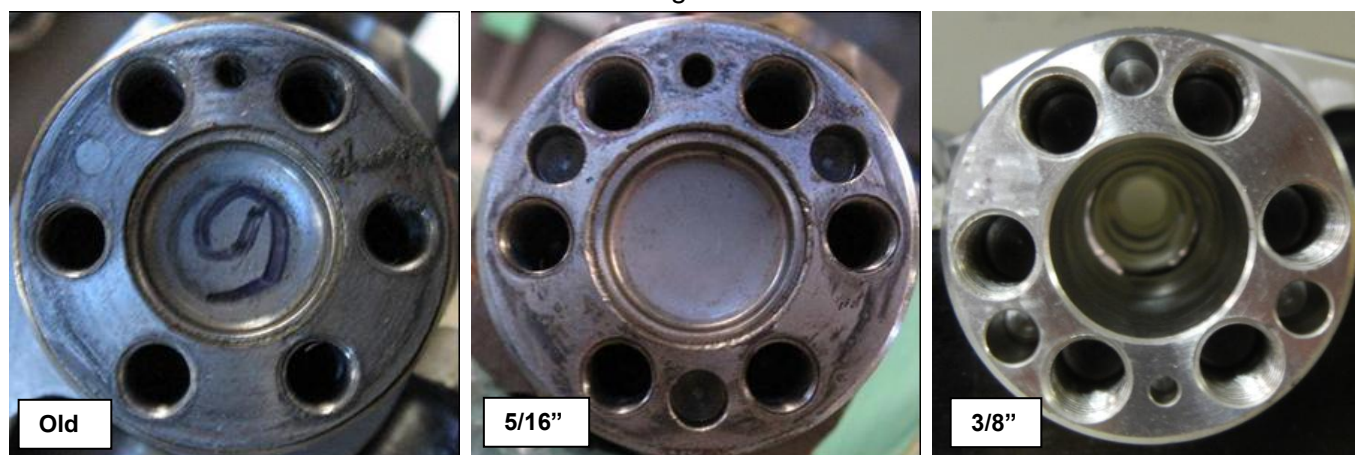

Figure 63 – Crankshaft End Detail (Dowel Holes)
- Engines with the "starfish" flywheel are retained with 6 x 5/16" x 1" or 6 x 3/8" x 1" UNF cap screws. The flywheel end of the crankshaft should look like the "5/16"" or "3/8"" photos in Figure 63.